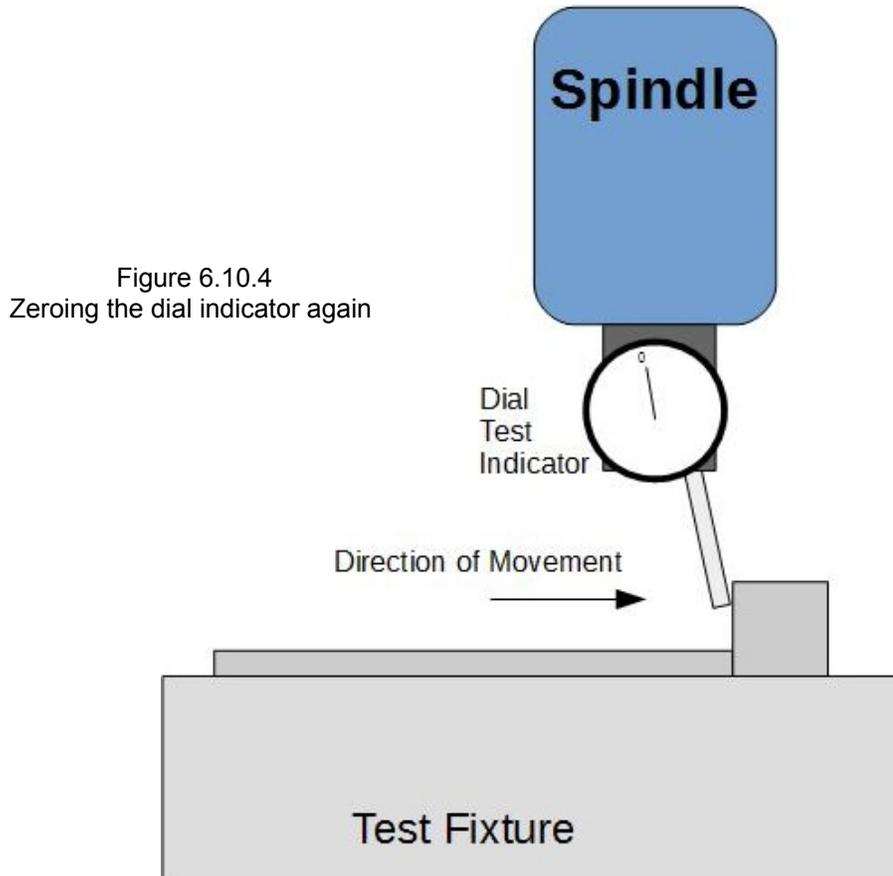

Figure 6.10.4
9. **Move to the base of the “L”:** Jog towards the base of the “L”. Set jog panel mode to incremental when you get close. Move the spindle so that the dial indicator is reading as close to “0” as possible as shown in Figure 6.10.4.